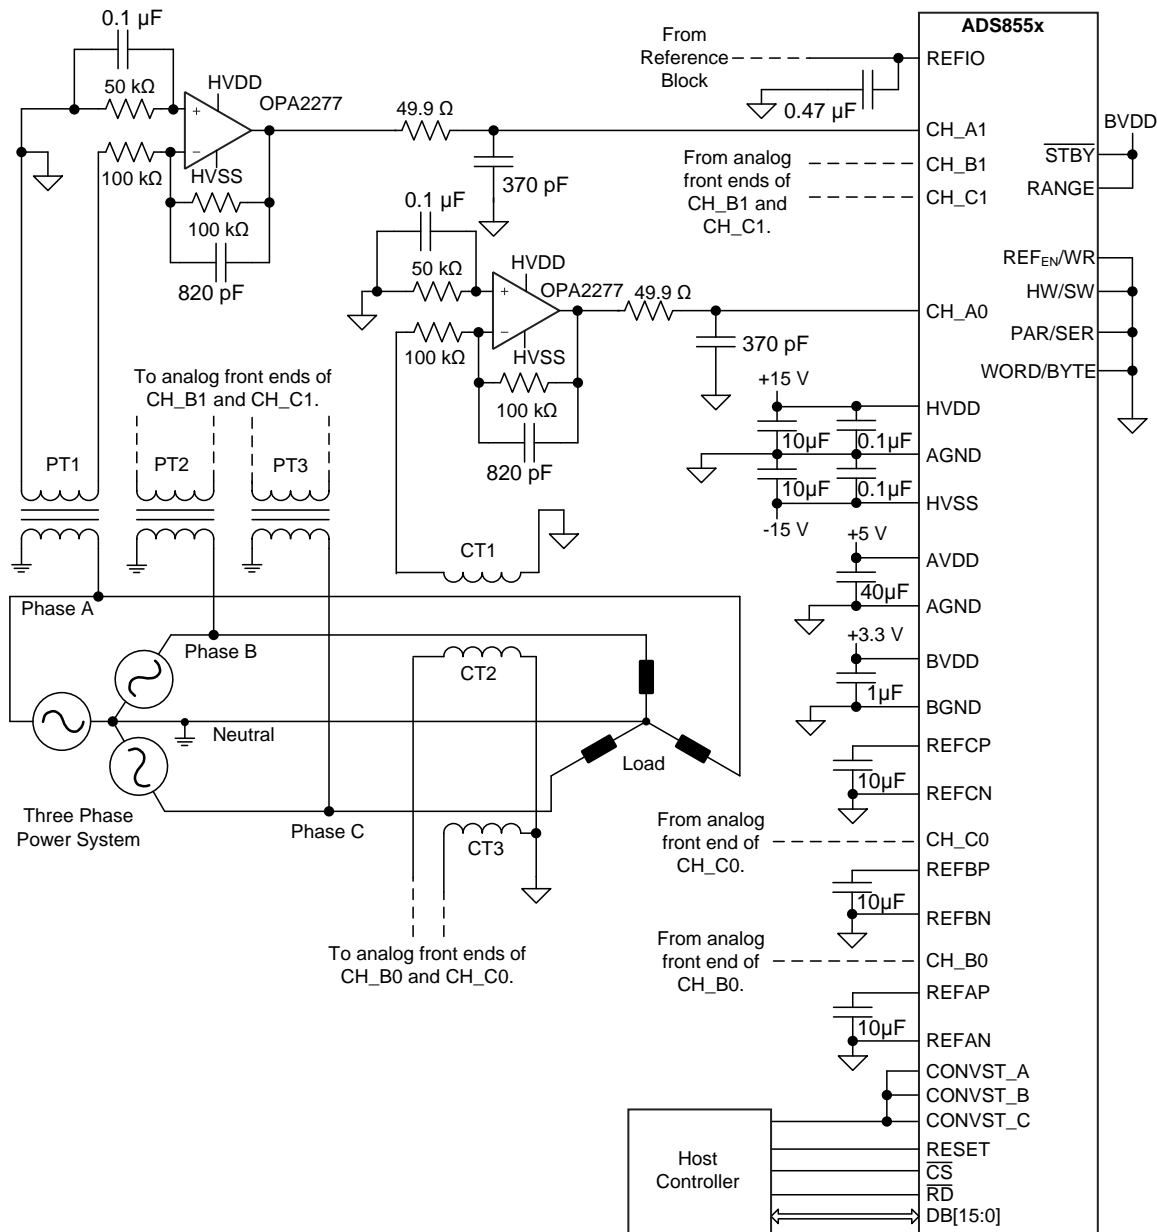

Figure 43. Simultaneous Acquisition of Voltage and Current in a 3-Phase Power System
This section describes the measurement of electrical variables in a 3-phase power system. The accurate measurement of electrical variables in a power grid is extremely critical because this measurement helps determine the operating status and running quality of the grid. Such accurate measurements also help diagnose problems with the power network, thereby enabling prompt solutions and minimizing down time. The key electrical variables measured in 3-phase power systems are the three line voltages and the three line currents; see Figure 43. These variables enable metrology and power automation systems to determine the amplitude, frequency, and phase information to perform harmonic analysis, power factor calculation, power quality assessment, and so forth.
- Output range of the potential transformers (elements labeled PT1, PT2, and PT3 in Figure 43)
- Output range of the current transformers (elements labeled CT1, CT2, and CT3 in Figure 43)
The potential transformers (PTs) and current transformers (CTs) used in the system depicted in Figure 43 provide the six input variables required. These transformers have a ± 10 -V output range. Although the PTs and CTs provide isolation from the power system, the value of R_{IN} is selected as 100 k Ω to provide an additional, high-impedance safety element to the input of the ADC. Moreover, selecting a low-frequency gain of -1 V/V (as shown in Equation 5) provides a ± 10 -V output that can be fed into the ADS8556 device; therefore, the value of R_F is selected as 100 k Ω .
The primary goal of the acquisition system depicted in Figure 43 is to measure up to 20 harmonics in a 60-Hz power network. Thus, the analog front-end must have sufficient bandwidth to detect signals up to 1260 Hz, as shown in Equation 6.